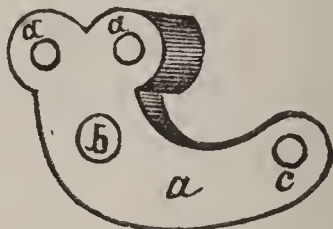

FIGURE 81.
*Nomenclature of the Bridle.*—The bridle, Fig. 81, consists of: *a*, the body; *b*, the eye for tumbler-pivot; *c*, hole for sear-screw; *d*, *d*, holes for bridle screws. Some tumblers have a pin that goes in a hole in the lock-plate, and this pin is called a pivot.